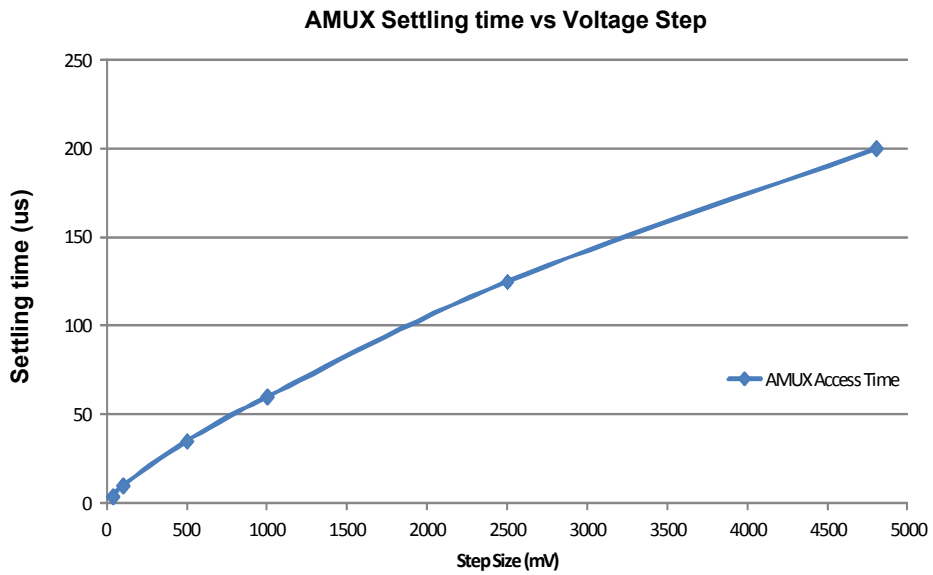

Figure 9. AMUX Access Time Waveform
- 24. AMUX settling time to be within the 10 mV offset specification. $AMUX_{\text{VALID}}$ is dependant of the voltage step applied on the input SGx/SPx pin or the difference between the first and second channel selected as the multiplexed analog output. See Figure 9 for a typical AMUX access time VS voltage step waveform.